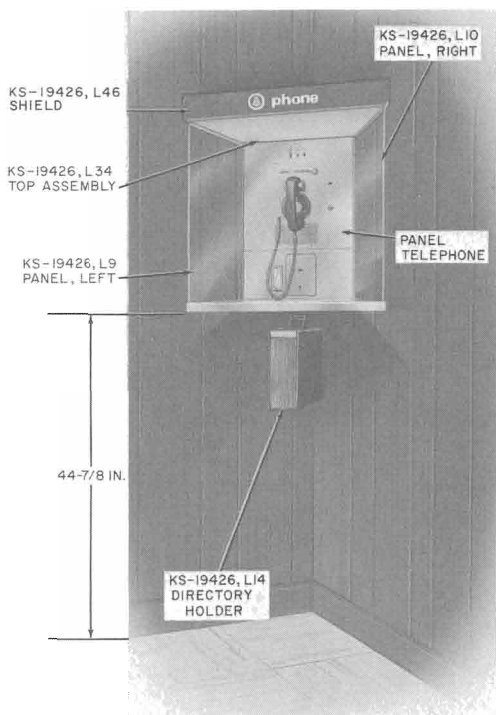

Fig. 4—KS-19426 Mounting in Corner
2.04 Wall mountings (Fig. 4 and 5) may be installed on a flat wall, in a corner, or around a corner in various multiple combinations as shown in Fig. 7.
- (b) List 14 directory holder (Fig. 4 and 5) for indoor use.